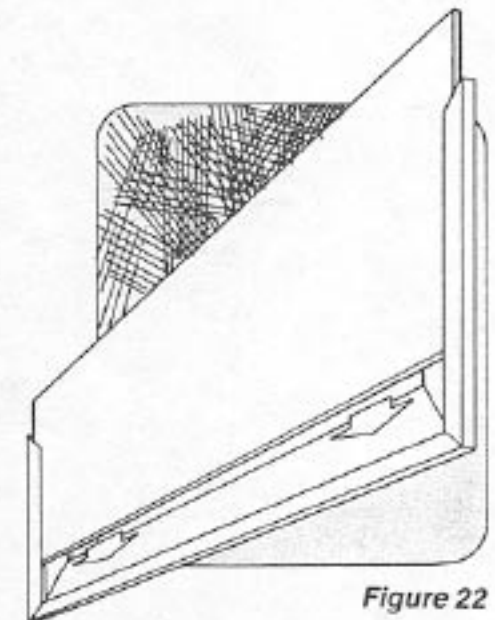

Figure 22
C) Slide panel into position in grille frame as shown in Figure 22.